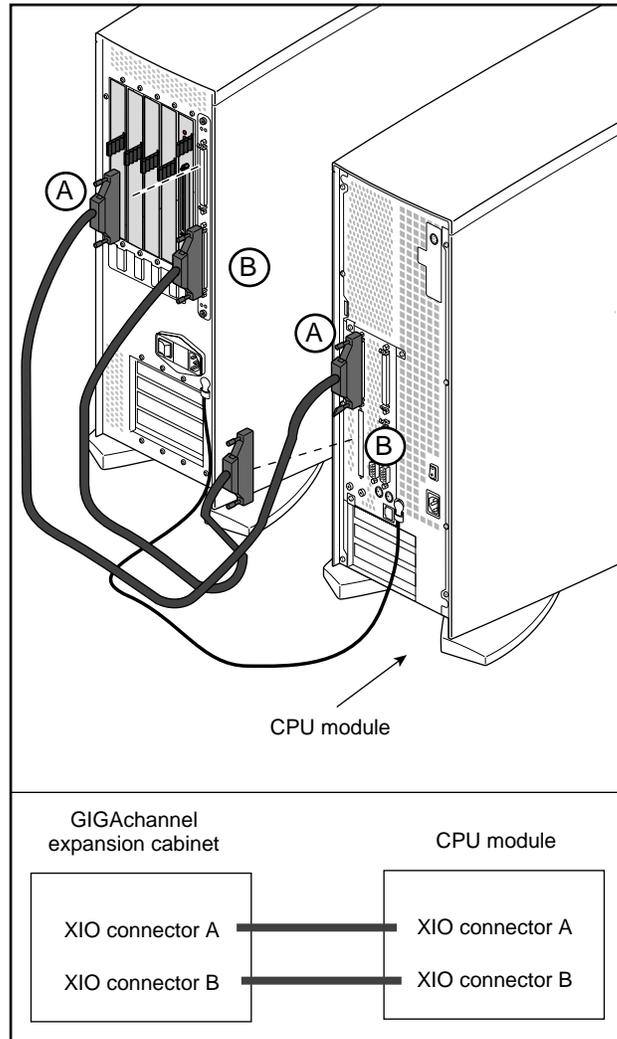

Figure 2-12 Attaching the XIO Cables Between a GIGACHannel Cabinet and a CPU Module
2. Attach the XIO cables between the GIGACHannel and the CPU module, as shown in Figure 2-12.